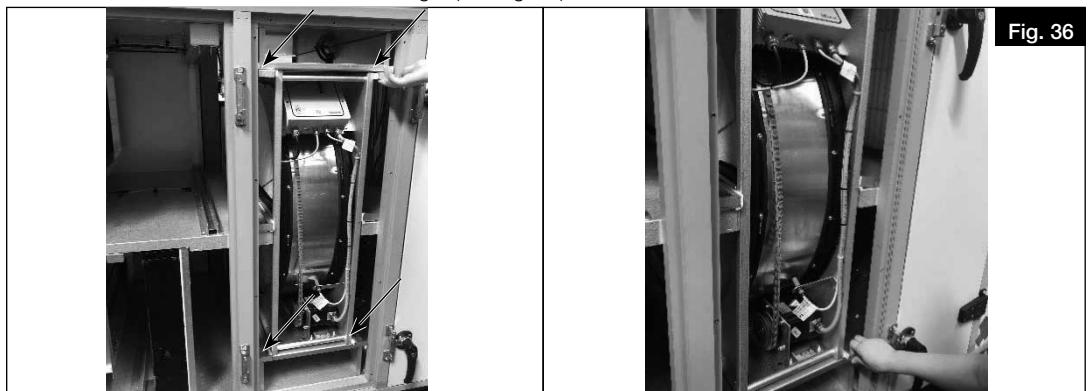

Fig. 36
3. Pull the latches to unlock the heat exchanger (see Fig. 36).